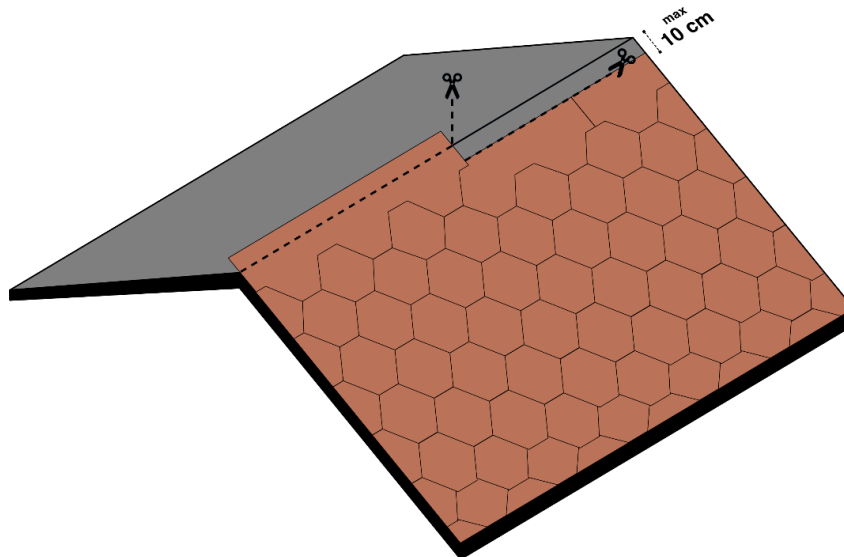

Fig. 18 – Shingles installation until the ridge
- Repeat the same steps for installation of the bituminous shingles in rows, until the entire pitch is covered, leaving the last 10 cm of bituminous membrane at the ridge exposed. If necessary, cut the top of the last row of shingles – Fig. 18